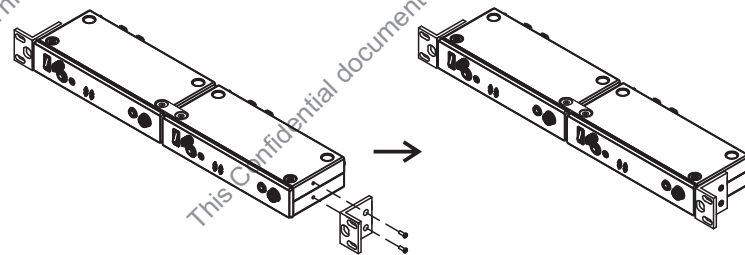

Fig. 7
- (C) Rack-mount with an optional FB-72 rack-mount kit, as Fig. 7